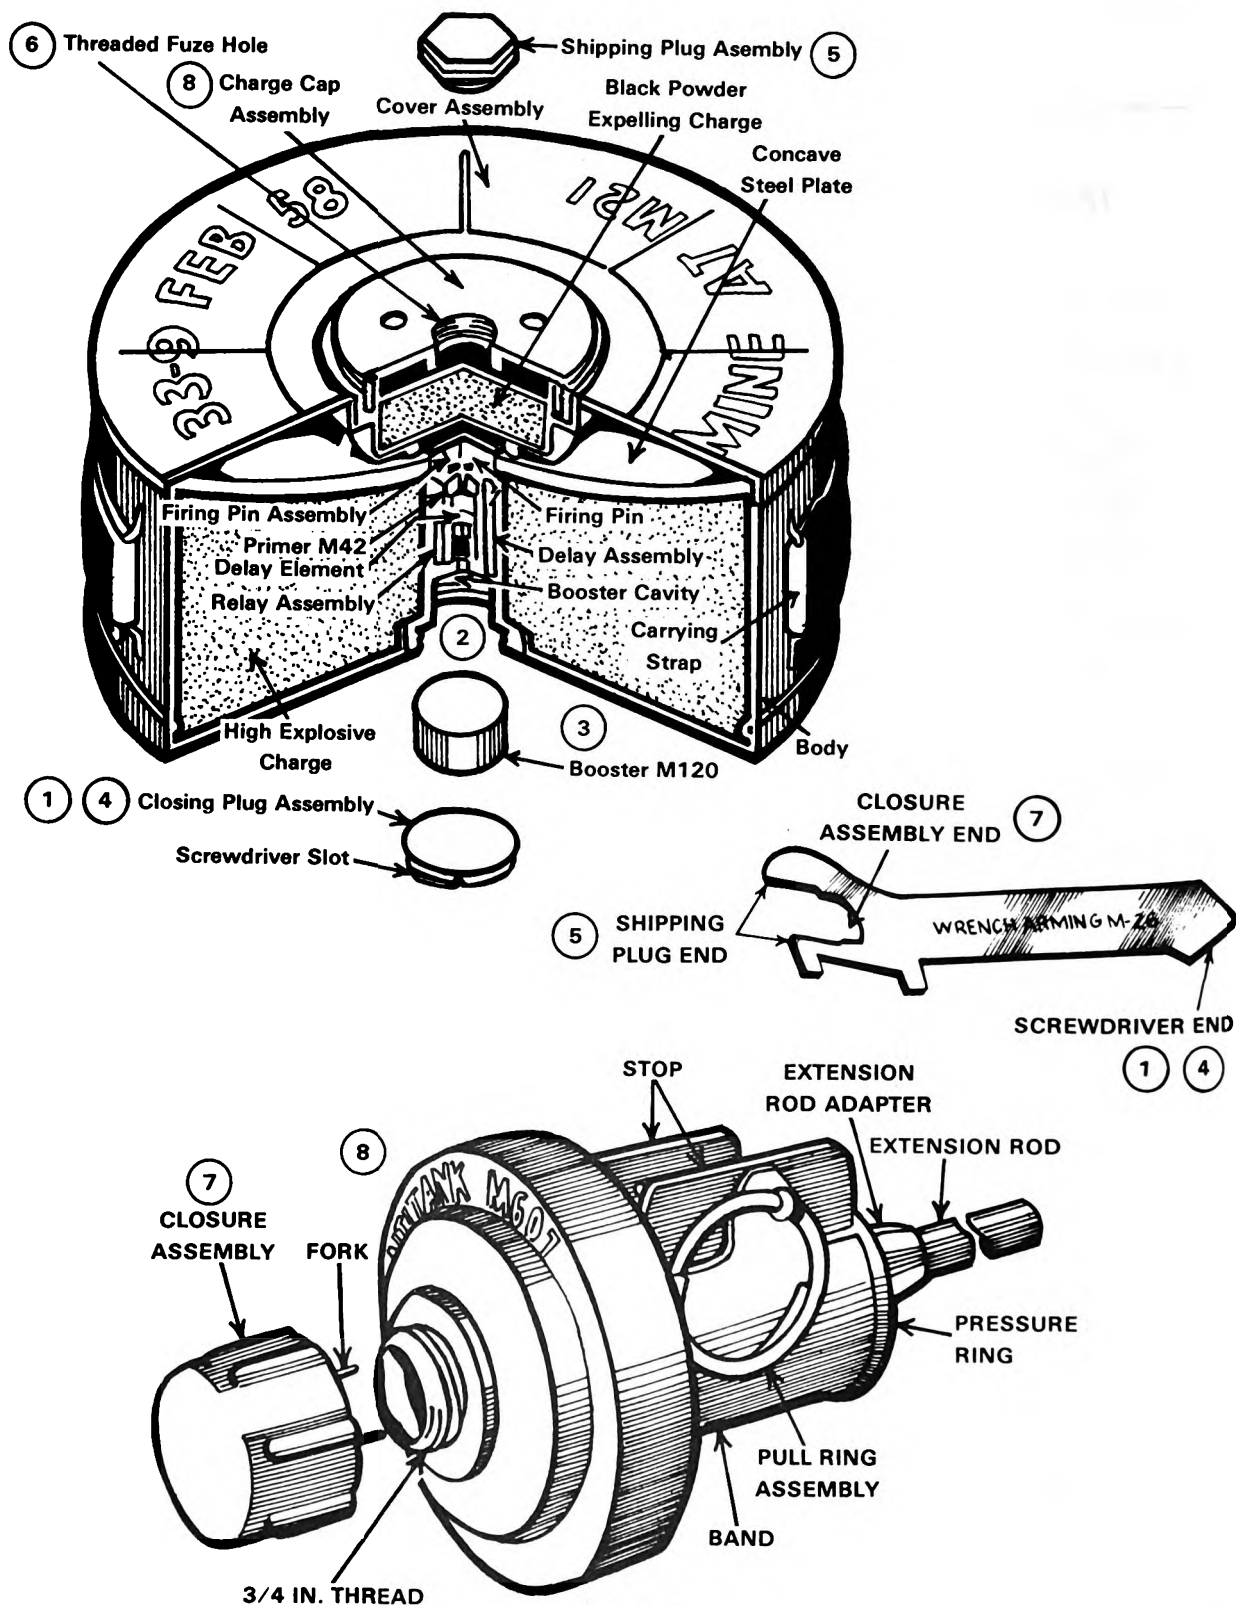

Figure 1.
- a. The numbers of steps 1 through 8 below relate to the numbers in figure 1.
(1) Turn mine bottom up and, with the screwdriver end of the M26 arming wrench, remove the closing plug assembly by turning counter-clockwise.
(2) Inspect booster cavity and remove foreign material.
(3) Insert M120 booster, washer side toward the fuze, into the booster cavity.